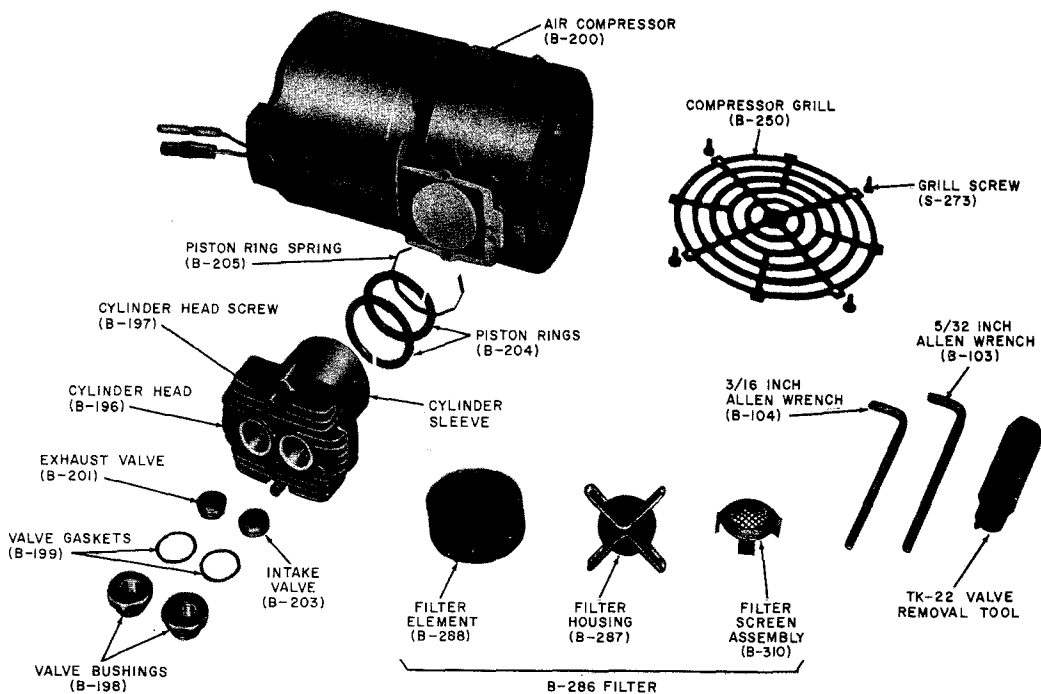

Fig. 1—B-200 Air Compressor—D Air Dryer
- (1) Disconnect the alarm plug at the dryer to prevent false operation.
- (2) Drain the water from the condensate receiver (2.05).
- (3) Replace the silica gel in the main gel tower (2.07).
- (4) **Annually** replace the air compressor piston rings, ring spring, valve gaskets, and intake exhaust valve (2.08).
- (5) On dryers modified by the addition of the B-310 filter screen assembly (Fig. 1), brush the screen and wipe with a clean dry cloth. Place a new B-288 filter element in the B-287 filter housing (2.08). The polyurethane filter element is a soft spongy material that is easily compressed for placing in or removing from the housing.)
- (6) If the filter housing has not been modified by the addition of the B-310 filter screen assembly, convert the housing per the instructions in the filter screen package and reconnect the B-286 filter assembly (2.08). (The formed wire filter screen improves airflow distribution through the B-286 filter assembly and prevents holes from forming in the filter element.)
- (7) Check the operation of the humidity alarm (2.10).
- (8) Observe that the heat exchanger temperature (2.11) and pressure (2.12 through 2.15) are cycling within proper limits.
- (9) Check the output air pressure of the pressure testing valve on the regulator and adjust if necessary (2.16).
- (10) Check for leakage within the dryer with the 5-minute test described in 2.09.
- (11) Reconnect the alarm plug when all work has been completed.
**2.08** The B-200 air compressor (Fig. 1) requires no lubrication. However at **annual** intervals